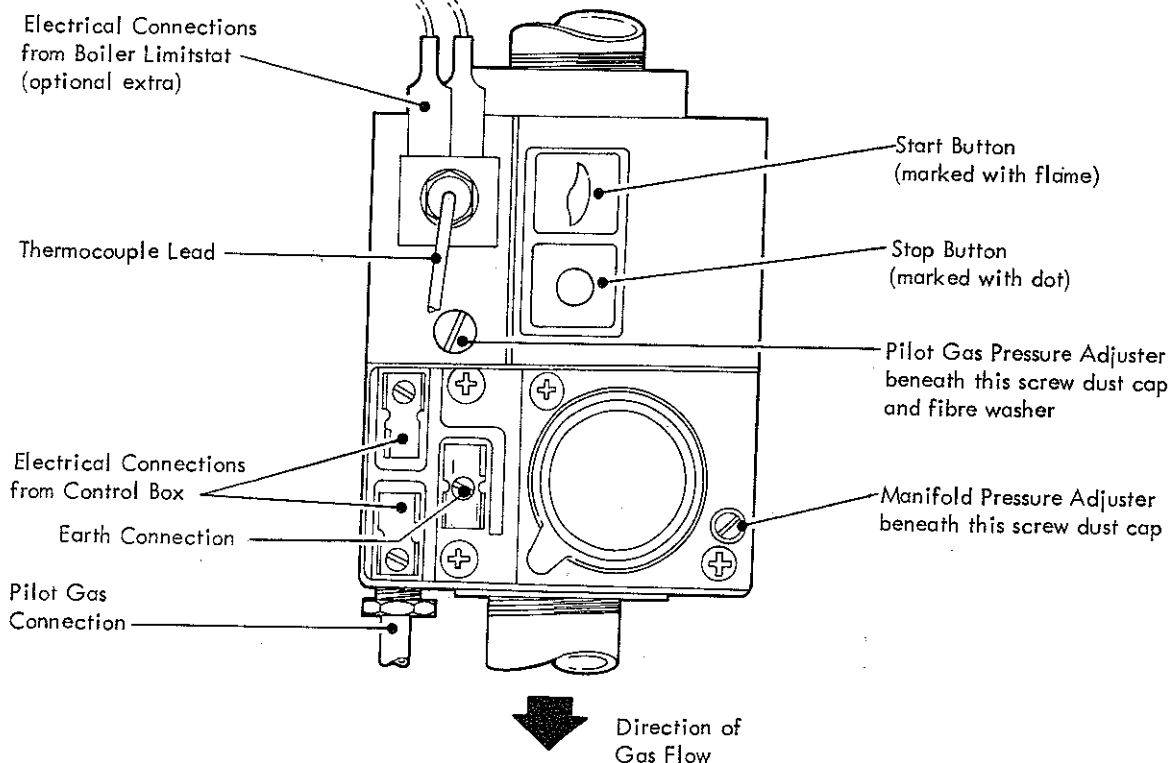

Figure 8 Gas Control
The manifold gas pressure must now be checked and adjusted as necessary. Commence the adjustment procedure with the system cold, on full load and with all temperature controls set at maximum. This will ensure, as far as possible, that thermostatic shutdown does not interfere whilst the pressure is being checked and adjusted. Remove the screw in the manifold pressure test nipple (G) and securely connect a suitable gas pressure gauge. Light the boiler and allow it to operate for about fifteen minutes to stabilise the burners. Check the pressure and adjust it to the figure shown in Table 2 for the appropriate boiler size. The location on the gas control of the manifold gas pressure adjuster is shown in Figure 8. Remove the dust cover over the adjuster and, using a suitable small screwdriver, turn the screw beneath clockwise to increase or anti-clockwise to reduce pressure.
The pilot burner flame should envelop the thermocouple head by 10-13 mm ($3/8'' - 1/2''$). The position of the pilot burner pressure adjuster on the gas control is shown in Figure 8. Turn the adjustment screw beneath the dust cover clockwise to decrease or anti-clockwise to increase the flame length. Replace the dust cover and fibre washer.